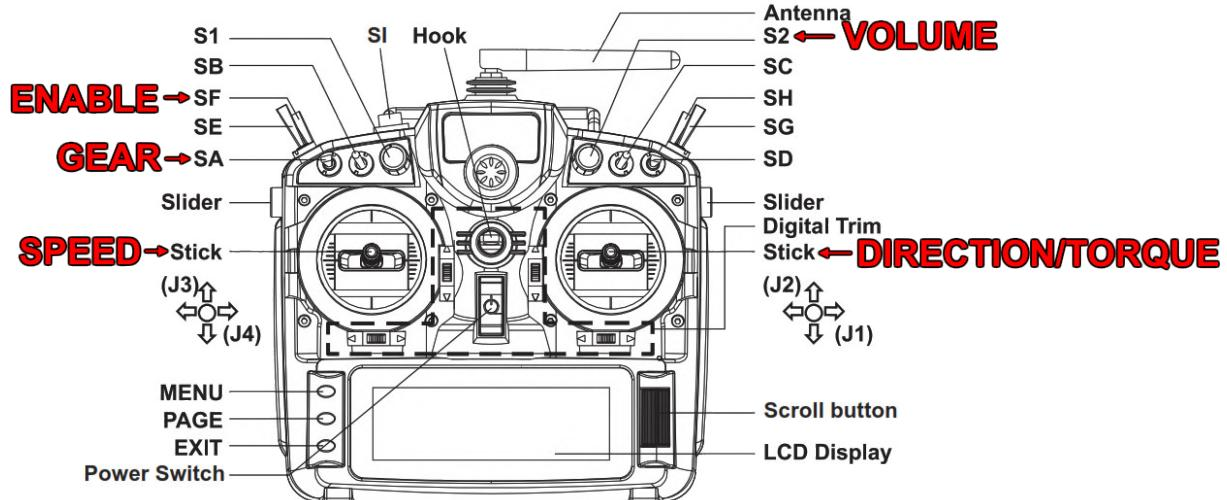

Figure 76: Remote Control, Control Scheme.
3. Power on the controller by pressing and holding the Power Switch (See Figure 76) until it vibrates.